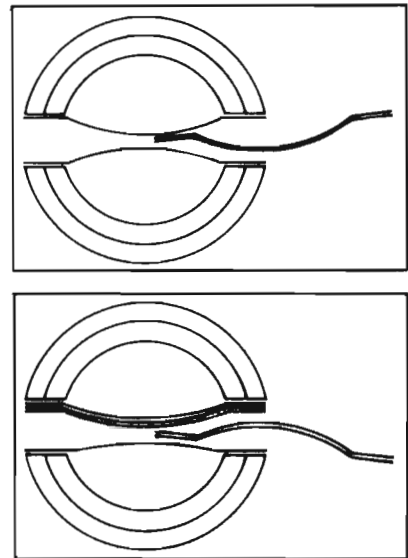

Figure 11
**Note:** If spring installation tool is not available, manually install centering springs by installing the two outside springs first. Add the remaining inner springs as shown in figure 11.